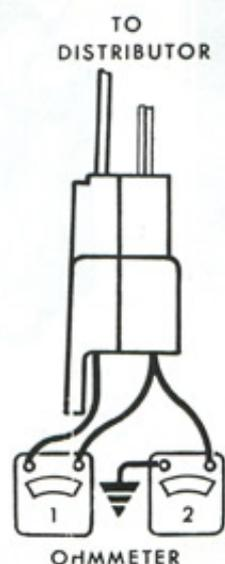

Figure 9—Ohmmeter connections to distributor connector body.
2. Disconnect the connector body, and connect an ohmmeter across the distributor pick-up coil (Step 1, Fig. 9).
5. Remove one ohmmeter lead from the connector body and connect to ground (Step 2, Fig. 9).